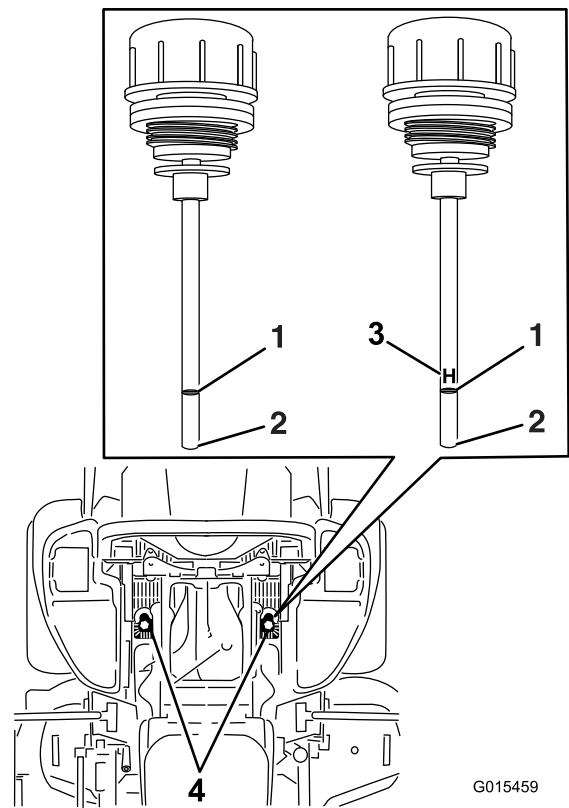

Figure 87
6. Clean the area around the dipsticks of hydraulic system reservoirs (Figure 87).
7. Remove one dipstick from the hydraulic reservoir (Figure 87).
9. Remove the dipstick and look at the end (Figure 87). If the oil level is at the add mark, slowly pour only enough oil into the hydraulic reservoir to raise the level to the full or **H** line.